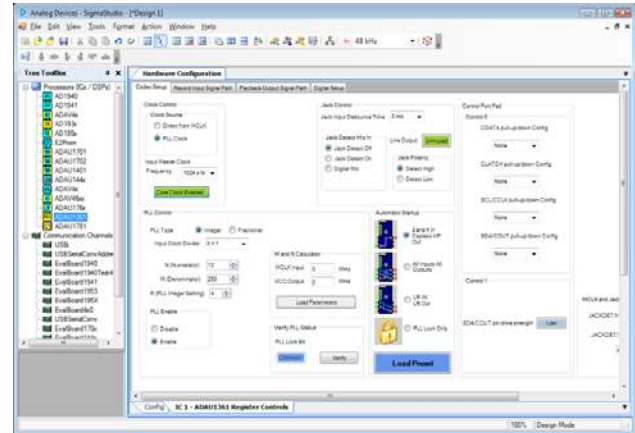

Figure 4. Hardware Configuration Tab—Register Setup
1. In the **IC1-ADAU1361 Register Controls** tab, select the **3 and 4 in Capless HP Out** option from the **Automatic Startup** list and click **Load Preset** (see Figure 4).